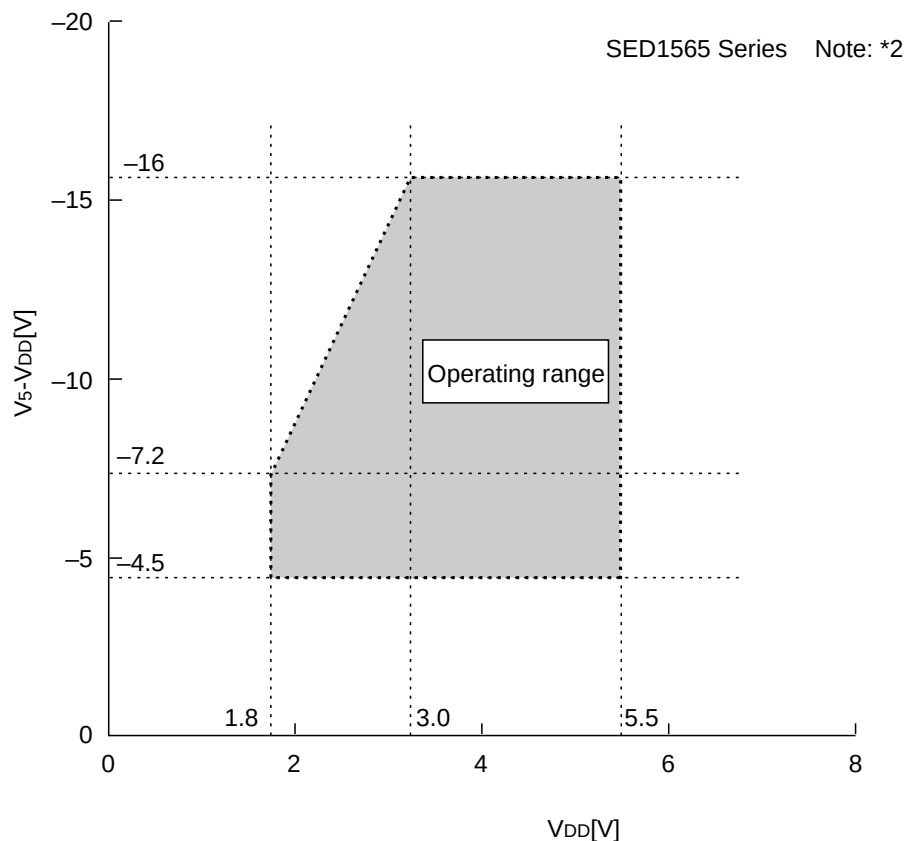

Figure 36
- *2 The operating voltage range for the VDD system and the V5 system is as shown in Figure 36. This applies when the external power supply is being used.
- *3 The A0, D0 to D5, D6 (SCL), D7 (SI), $\overline{RD}$ (E), $\overline{WR}$ (R/W), $\overline{CS1}$, CS2, CLS, CL, FR, M/S, C86, P/S, $\overline{DOF}$, $\overline{RES}$, IRS, and $\overline{HPM}$ terminals.
- *5 The A0, $\overline{RD}$ (E), $\overline{WR}$ (R/W), $\overline{CS1}$, CS2, CLS, M/S, C86, P/S, $\overline{RES}$, IRS, and $\overline{HPM}$ terminals.
- *6 Applies when the D0 to D5, D6 (SCL), D7 (SI), CL, FR, and $\overline{DOF}$ terminals are in a high impedance state.
- *7 These are the resistance values for when a 0.1 V voltage is applied between the output terminal SEGn or COMn and the various power supply terminals (V1, V2, V3, and V4). These are specified for the operating voltage (3) range.